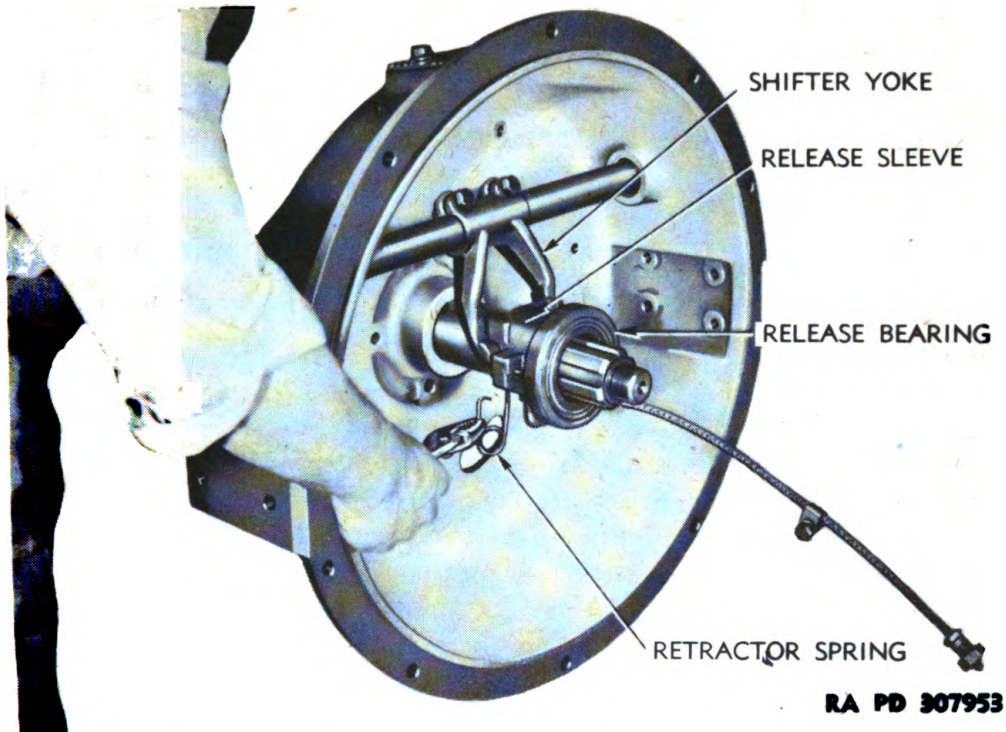

Figure 146 — Removing Clutch Shifter Retractor Springs
(1) **REMOVE RELEASE SLEEVE AND BEARING ASSEMBLY.** Remove jam nut from clutch release bearing lubricating tube (fig. 155). This nut also holds lubricating tube support bracket to housing. Remove bolt from clip holding tube to inside of housing, then pull end of release bearing lubricating tube down out of top of housing. Unhook ends of retractor springs from ends of clutch shifter yoke and slide springs from release sleeve (fig. 146). Slide release sleeve and bearing assembly off clutch shaft.
(1) **INSTALL LEVER ON CLUTCH SHIFTER SHAFT.** Tap key into slot in end of lever. Aline slot in lever with key and tap lever onto shaft until end of shaft and lever are flush (fig. 146) and tighten clamp screw.
(4) **INSTALL RELEASE SLEEVE AND BEARING ASSEMBLY.** Slip assembly onto clutch shaft with bearing towards end of shaft (fig. 146). Make sure sleeve slides freely on shaft. Insert straight ends of retractor springs up through holes in sides of release sleeve until other end can be hooked into holes in back of ends of shifter yoke. Insert end of release bearing lubricating tube up through hole in upper part of housing (fig. 155). Place tube support bracket over end of tube, then install and tighten jam nut on tube. Attach pipe clip on tube to inside of housing with cap screw and lock washer. Insert end of clutch shaft bearing lubricating tube up through bracket and install jam nut. Fill bearing with lubricant through these tubes.